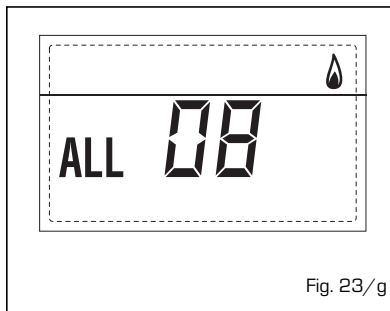

Fig. 23/g
- WATER CIRCULATION ANOMALY ALARM 09 (fig. 23/h)